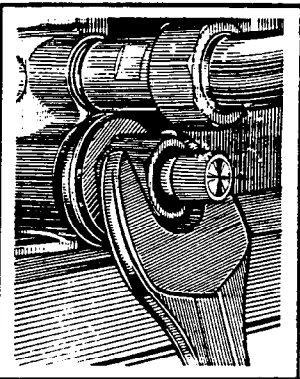

Fig. 19
- Unscrew the head of the valve with a spanner (fig. 19).